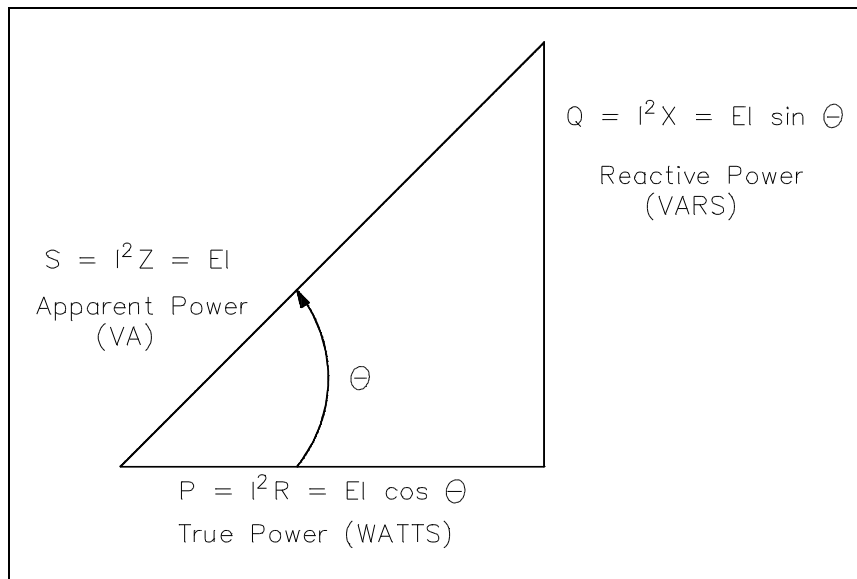

Figure 1 Power Triangle
In AC circuits, current and voltage are normally out of phase and, as a result, not all the power produced by the generator can be used to accomplish work. By the same token, power cannot be calculated in AC circuits in the same manner as in DC circuits. The power triangle, shown in Figure 1, equates AC power to DC power by showing the relationship between generator output (apparent power - S) in volt-amperes (VA), usable power (true power - P) in watts, and wasted or stored power (reactive power - Q) in volt-amperes-reactive (VAR). The phase angle (θ) represents the inefficiency of the AC circuit and corresponds to the total reactive impedance (Z) to the current flow in the circuit.
Power factor (pf) is the ratio between true power and apparent power. True power is the power consumed by an AC circuit, and reactive power is the power that is stored in an AC circuit. $\cos\theta$ is called the power factor (pf) of an AC circuit. It is the ratio of true power to apparent power, where θ is the phase angle between the applied voltage and current sine waves and also between P and S on a power triangle (Figure1). Equation (9-4) is a mathematical representation of power factor.